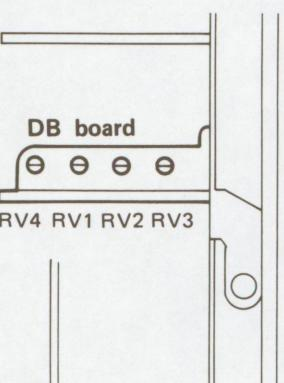

Fig. 5-24.
2) Adjust the Y. TILT control (RV4) on the DB board (Fig.5-24) as shown below.
3) Adjust the V. TILT-GAIN (RV3), the V. TILT-TOP (RV2), and the V. TILT-BOTTOM (RV1) controls on the DB board (Fig.5-24) for the V. tilt gain as shown below.